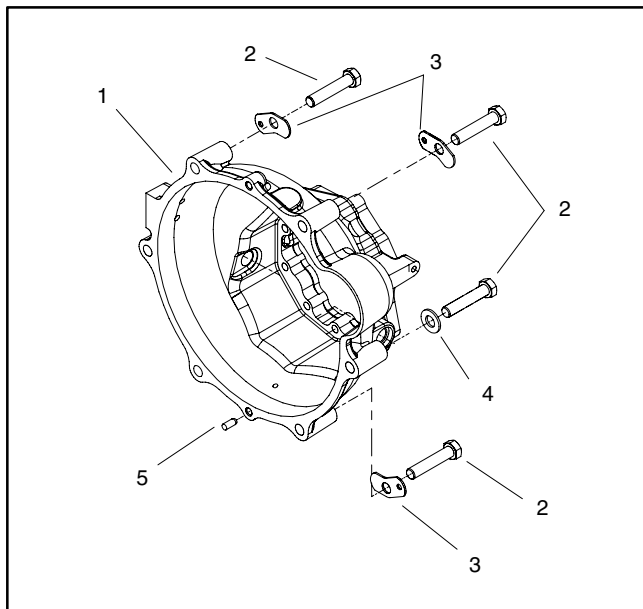

Figure 13
15. Loosen and remove two (2) locknuts (Item 9) and cap screws (Item 1) that secure engine mount to engine support (Fig. 13). Locate and retrieve flat washers (item 2), spacers (item 4) and snubbing washers (item 6).
16. Remove six (6) cap screws that secure clutch bell housing to engine. Note location of three (3) flat washers and three (3) harness brackets as caps screws are being removed (Fig. 13).
18. Note location and retrieve two (2) dowel pins from bell housing (Fig. 13).